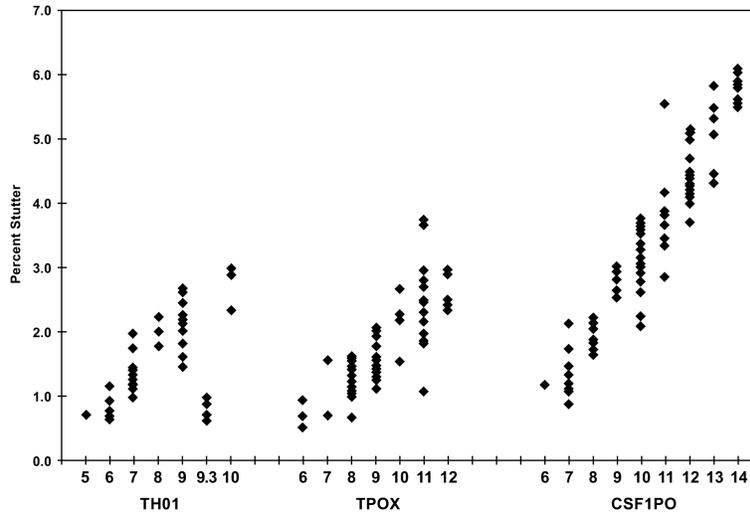

Figure 6-3 Percent stutter observed for the STR loci in the AmpF ϕ STR Green™ I PCR Amplification Kit
- ◆ The percent stutter increases with increasing allele length (*i.e.*, with increasing number of repeat units) as shown in Figure 6-3 on page 6-22.